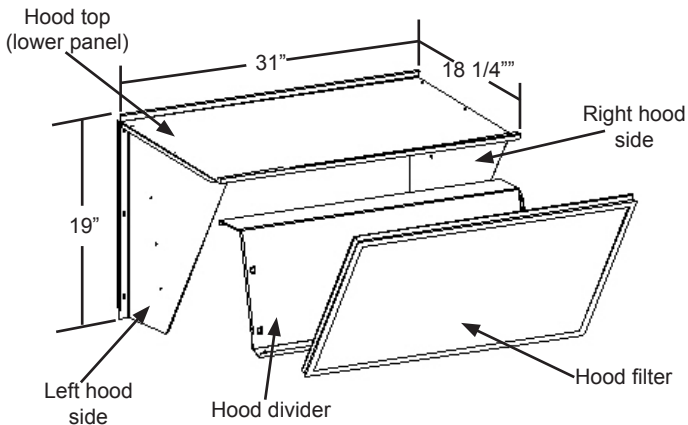

Figure 7
2. Screw the hood sides to the hood top, See Figure 7.